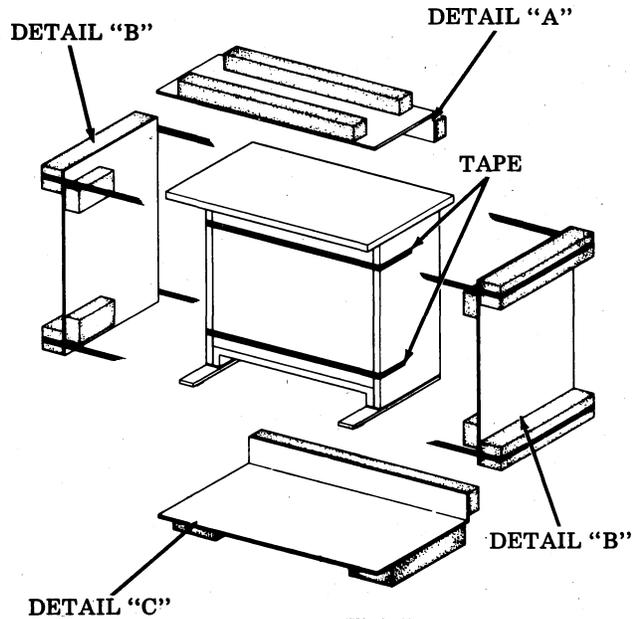

Fig. 9—Packing Details and Pedestal
3.07 Remove tape and packing details (Fig. 9). Place pedestal in position where it is to be located.